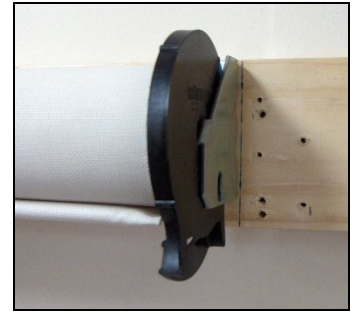

Figure 11 C24 Clutch on Heavy Duty Bracket
- Attach the clutch end by pushing the clutch, chain down, onto the heavy duty bracket spear and releasing the tension on the idler pin. See Figure 11.